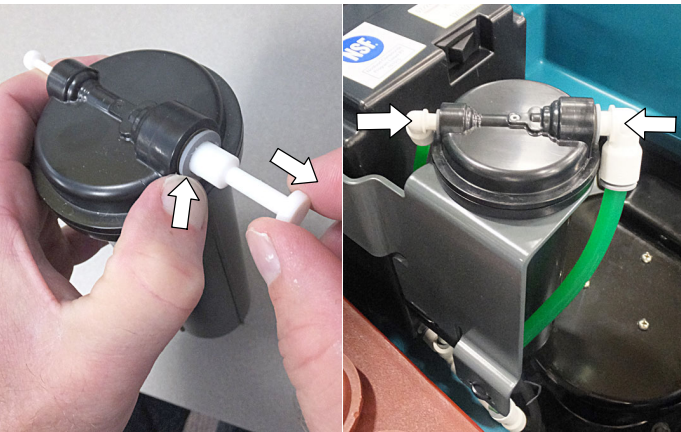

Fig. 49
3. Remove the two plugs from cartridge. Press the gray collars inward and pull plugs outward to remove (Figure 49). Position the cartridge in the cartridge holder bracket as shown and connect green hoses to cartridge (Figure 49). Make sure the hose connectors are fully inserted.